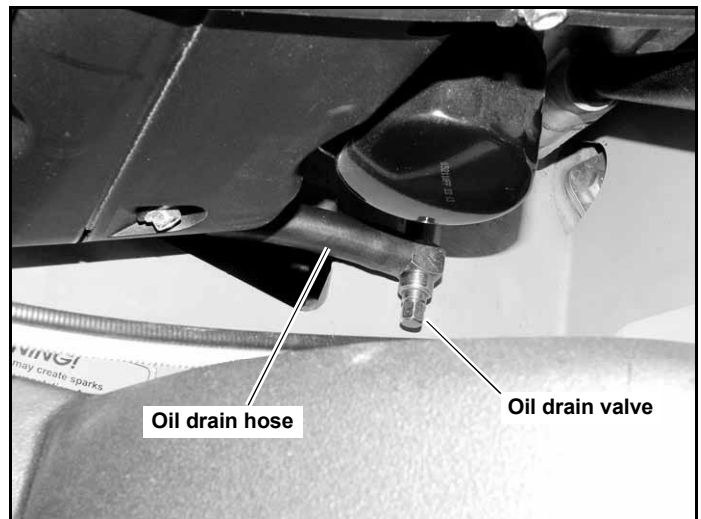

Figure 4-3
3. Locate the oil drain hose that was supplied with the machine. Be sure to clean and clear it of debris that might block the flow of the engine oil. Figure 4-3
10. Clean the oil drain hose and store it appropriately. Figure 4-3
2. Locate the oil drain hose that was supplied with the machine. Be sure to clean and clear it of debris that might block the flow of the engine oil. Figure 4-3